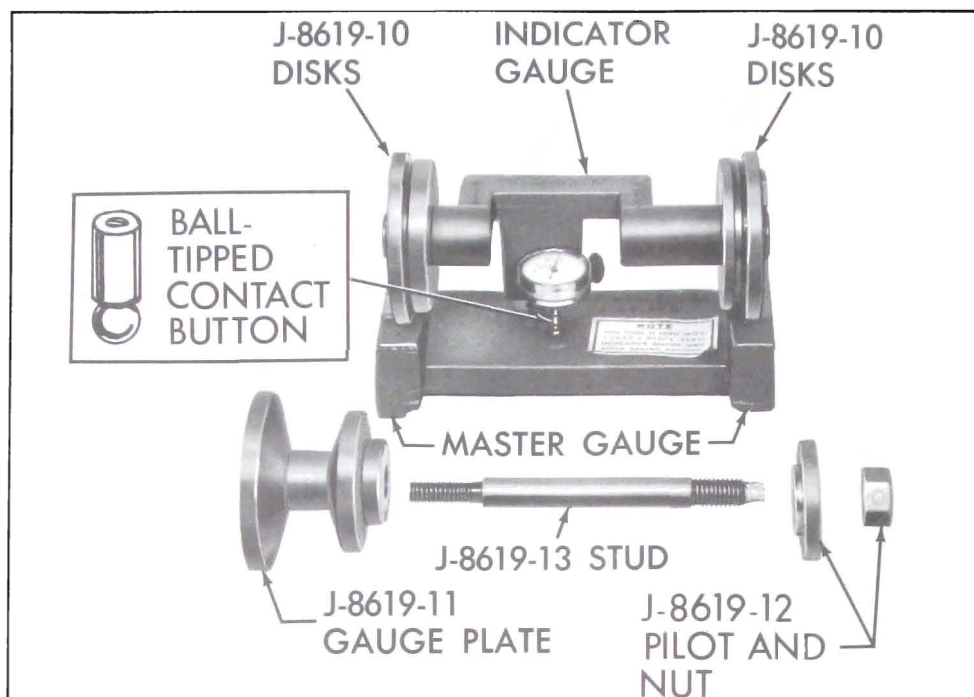

Fig. 6-19—Pinion Setting Gauge
Pinion depth is set with Pinion Setting Gauge J-8619 which consists of the following: (1) master gauge, (1) indicator gauge with dial indicator, (2) J-8619-10 Disks, (1) J-8619-11 Gauge Plate, J-8619-12 Pilot and Nut with J-8619-13 Stud. See Figure 6-19. Although production pinions are marked, neither production nor service pinions have a gauging tooth. The pinion setting gauge provides in affect a nominal or zero pinion as a gauging reference.
2. Install the J-8619-10 Disks on the indicator gauge. Install the small ball-tipped contact button on the stem of the dial indicator and mount the dial indicator on the indicator gauge. See Figure 6-19. NOTE: When gauging for pinion depth, the ball-tipped contact button must be used on dial indicator in order to reach Gauge Plate J-8619-11 in carrier.